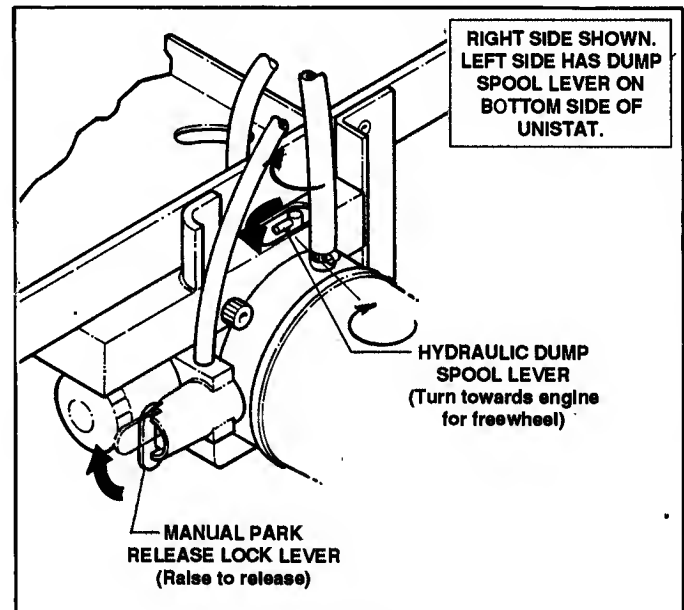

FIGURE 9.1
2. Raise the Manual Park Release Lock Lever so that it is parallel to the ground. See Figure 9.1. The unit will now freewheel.